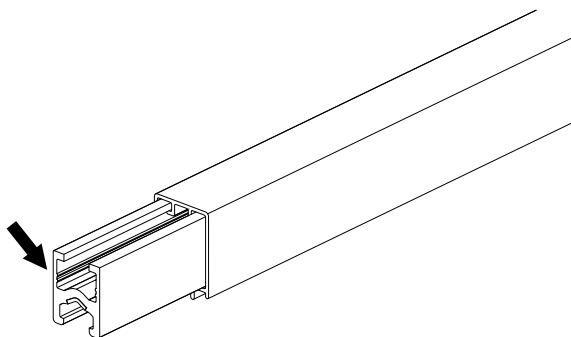

Fig. 39: Conductor rail end must be deburred
- Conductor rail end must be free of burrs. Deburring may be required (see Fig. 9 and Fig. 39).